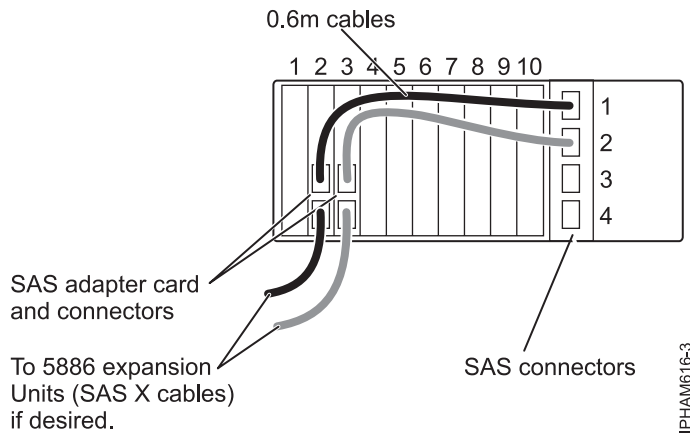

Figure 10. Physical cabling example: One hard-disk-drive partition with 18 disks, dual SAS adapters, and hard-disk-drive partitions switch position 1
<p>One hard-disk-drive partition with 18 disks and dual SAS adapters.</p> <p>This is a multi-initiator high-availability configuration.</p> <p>Dual SAS connectivity to all drives.</p>	<p>For related physical cabling, see Figure 10 on page 33.</p> <p>Operating system: AIX or Linux</p> <p>SAS adapter: Either two (FC 5901) - PCIe Dual - x4 SAS Adapters or two (FC 5903) - PCIe Dual - x4 3Gb SAS RAID Adapters</p> <p>Hard-disk-drive partitions switch: position 1</p> <p>Cables: Two (FC 3688) - SAS cables (AT) 0.6 meter.</p> <p>Note: For AIX and Linux operating systems, this must be a RAID configuration.</p>